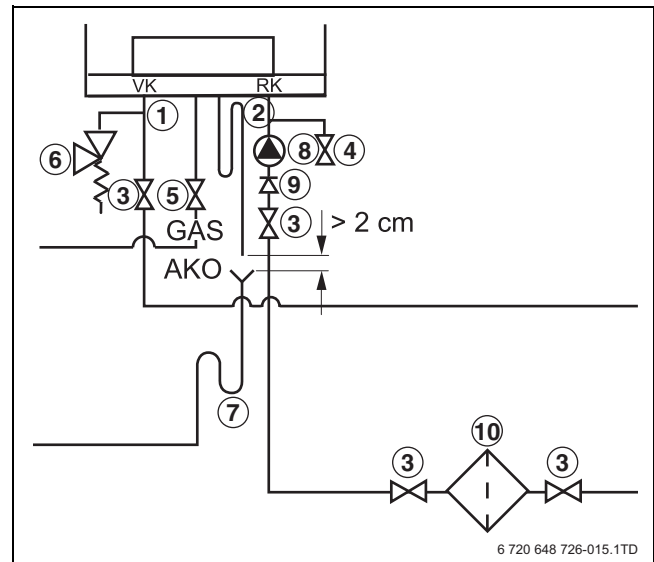

Fig. 15 Connecting the boiler flow and return
- ▶ Install a isolating valve for maintenance and repair purposes in both the boiler flow and return circuits (→ fig. 15, [3]). Use isolating valves with a minimum diameter of 1½".
- ▶ Connect a drain cock in the return circuit (→ fig. 15, [4]).
- ▶ Install a 4-bar pressure relief valve (→ fig. 15, [6]) with a minimum passage of 22 mm in the flow circuit. Make sure that the pressure relief valve is always installed between the boiler and the isolating valve, so that the boiler will always be in contact with the pressure relief valve, even if the isolating valves are closed.
- Install the pump (→ fig. 15, [8]) in the return circuit (→ fig. 15, [2]).